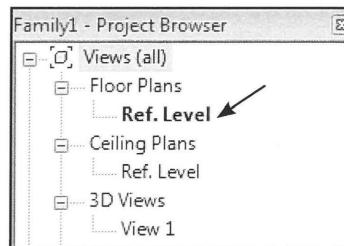

Fig. 04.04. Stå i *Floor Plans - Ref. Level*.
- Stå i *Floor Plans - Ref. Level* i *Project Browseren* (Fig. 04.04).